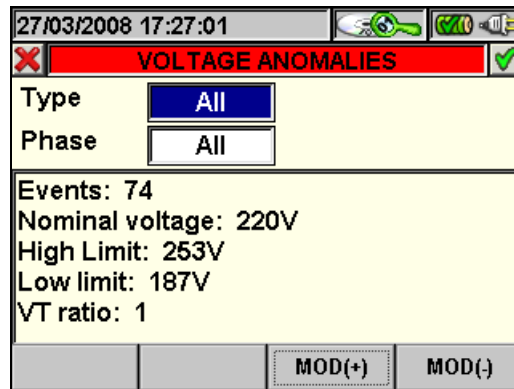

Fig. 121: Voltage Anomalies
- The **F2** key (or the **PARAM** item on the display) accesses the page showing the settings for voltage anomalies (Fig. 121).